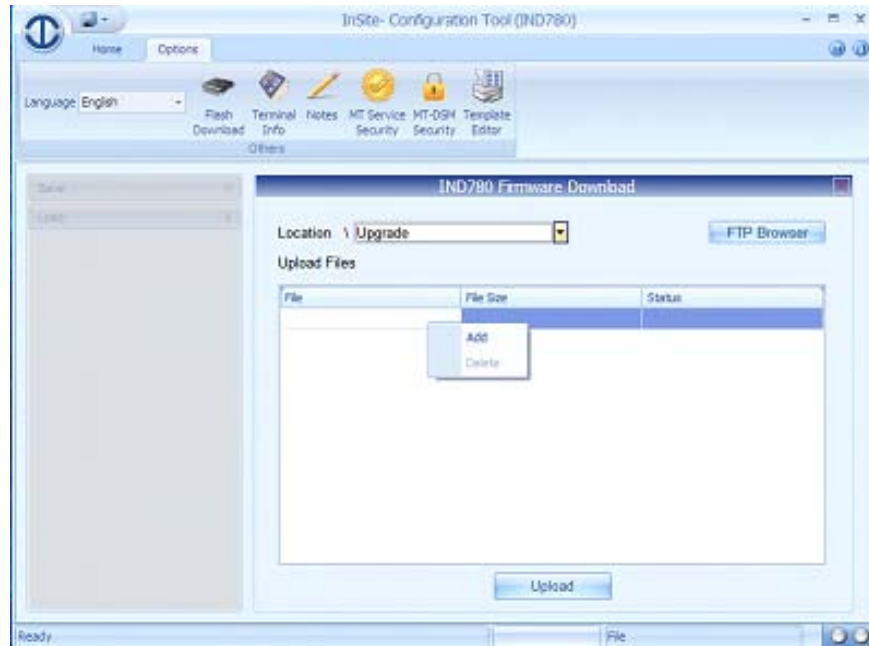

Figure 3-1: InSite Firmware Upgrade File Selection Screen
3. Access Options | Flash Download, or click on the Flash Download icon . From the Firmware Download window (Figure 3-1), select the files to copy to the IND780's Upgrade folder. Refer to the InSite documentation or help system for details on performing this step.